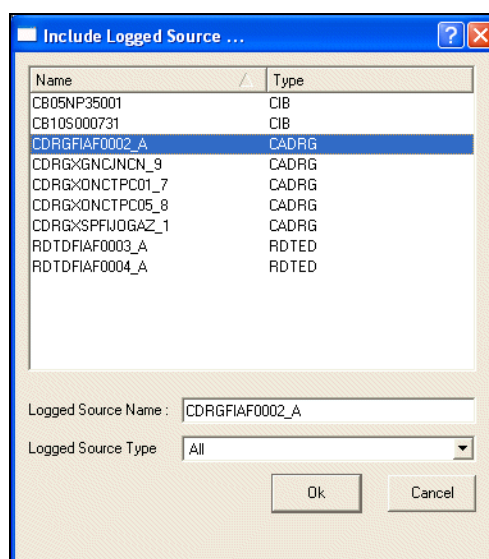

Fig. 48 — Listing of all logged and processed source data
- b. Verify the logged source listing includes all sources that have been logged and processed (Fig. 48).
1. From the MMCPD main menu, click Compose, then Include Coverage, then Logged Source (Fig. 48).